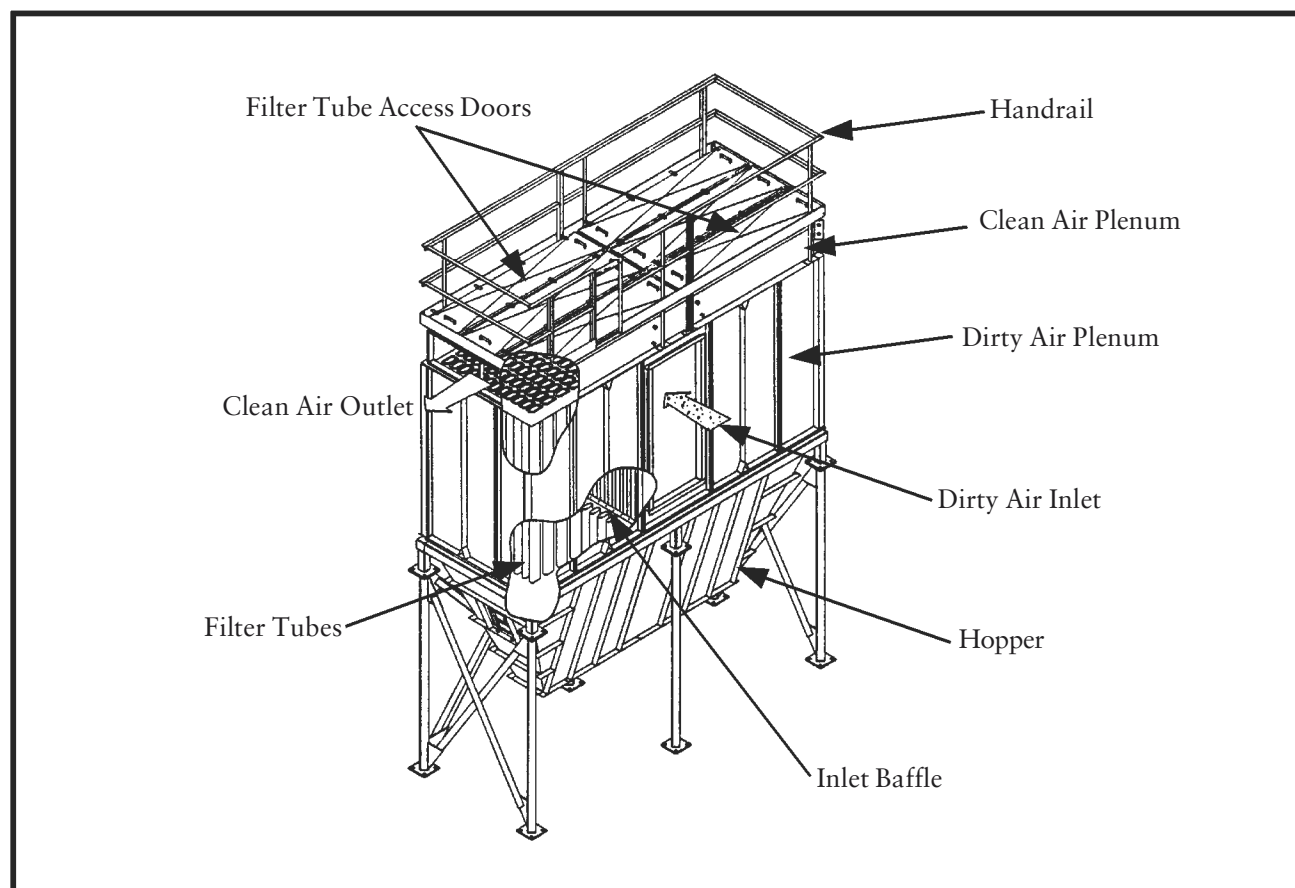

Figure 2
1.1.1 Normal Operation (See Figure 2)